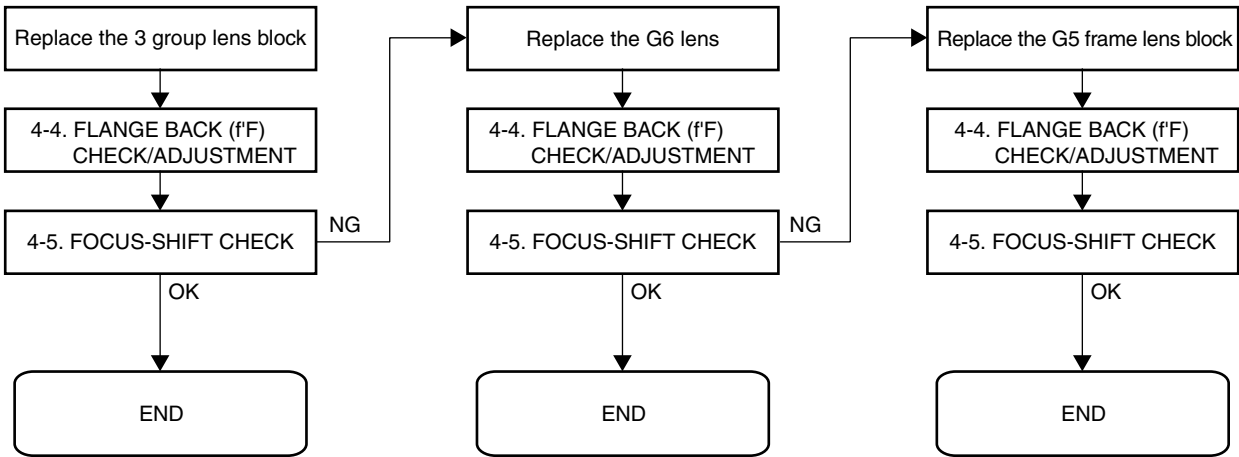

Fig.4-5-2
- 4) When the focus-shift is out of specification, perform the parts replacement and adjustment/check referring to the Fig.4-5-2.